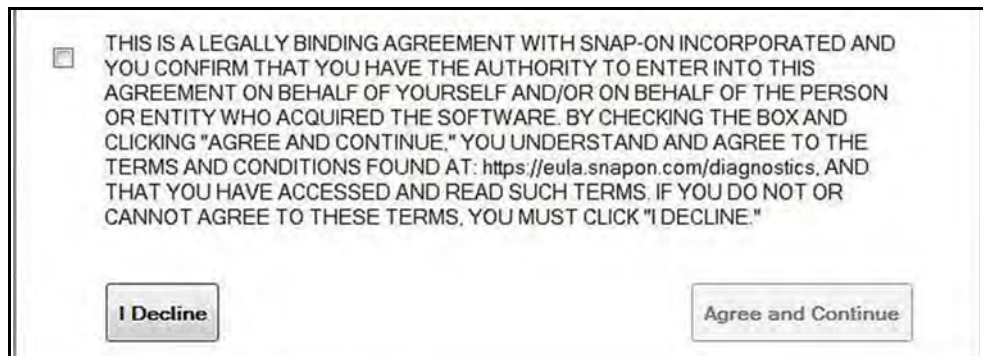
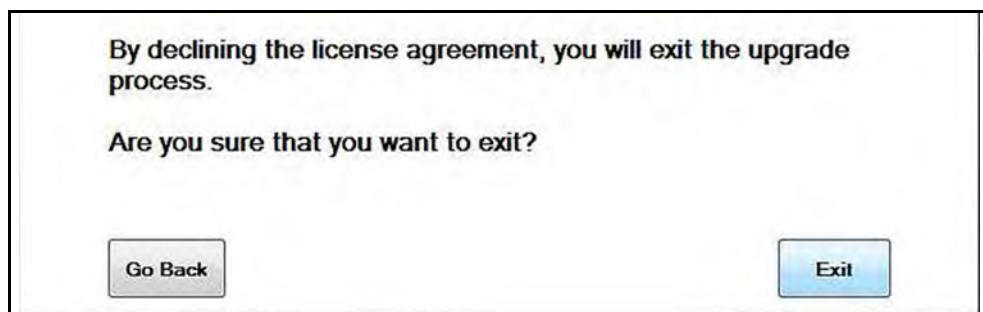

Figure 16-3 Typical EULA acceptance screen
Figure 16-4 Typical EULA acceptance screen
**To Accept:** at the screen prompt (Figure 16-3) click the checkbox on the left side of the window, and then select **Agree and Continue**. The software will be installed automatically.
Figure 16-3 below represents a typical EULA acceptance agreement screen.
**To Decline:** at the screen prompt (Figure 16-3) select **I Decline**. A confirmation message is displayed providing options to Go Back or Exit the software installation (Figure 16-4).